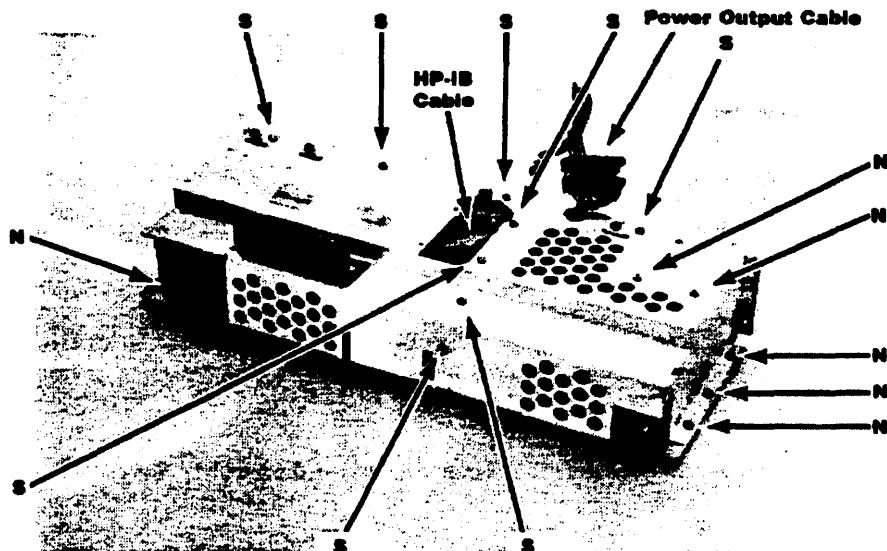

Figure 6-30a. Base Assembly Cover Screws and Nuts
15. The base assembly should now appear as shown in figure 6-30a. Remove the eight screws and six nuts holding the cover to the base assembly.